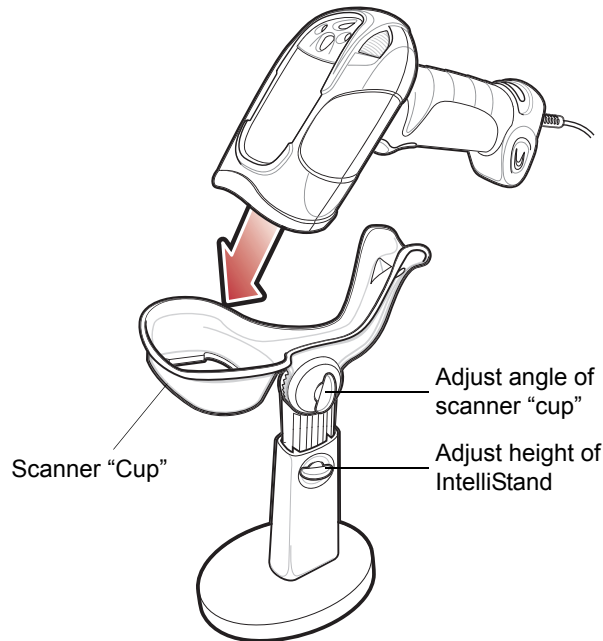

Figure 2-6 *Inserting the Digital Scanner in the Intellistand*
2. Insert the digital scanner in the Intellistand by placing the front of the digital scanner into the stand's "cup" (see Figure 2-6).